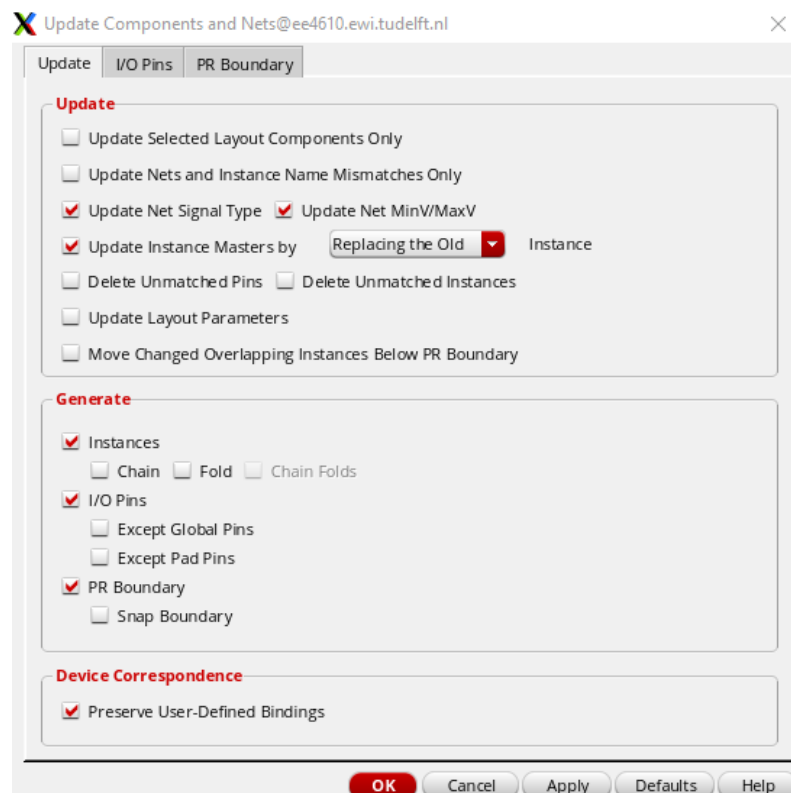

Figure 16: Component import
- Click *Connectivity < Update < ComponentsAndNets* to import all designed components. You can used the default settings as shown in Fig. 16. Click "OK".